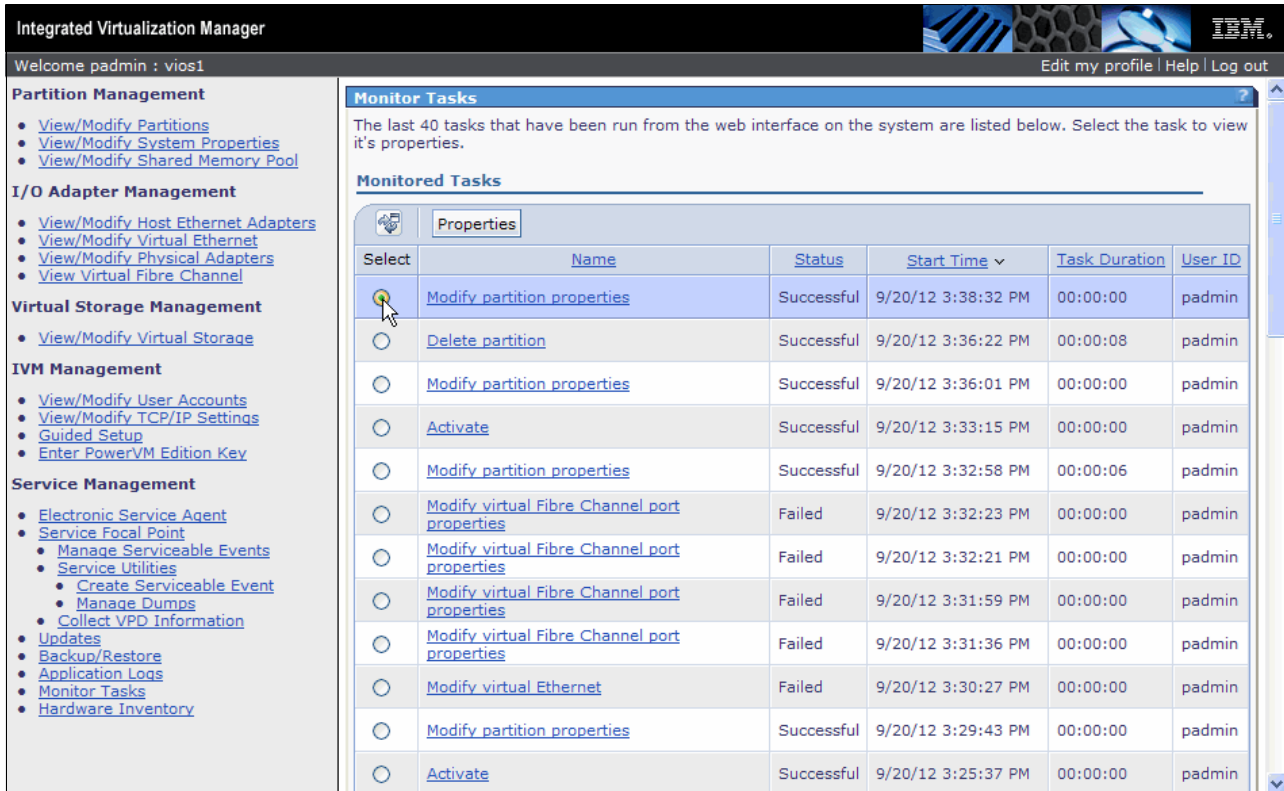
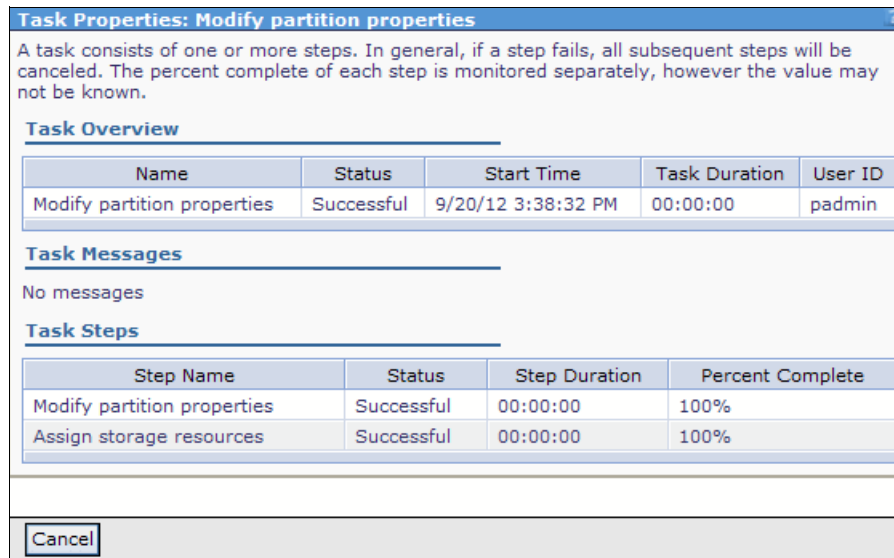

Figure 5-50 Monitor Tasks: the last 40 tasks
Figure 5-51 Task Properties
2. **Select** the task for which you want to view the properties, as shown in Figure 5-50.
3. Click **Properties** (shown in Figure 5-50). The **Task Properties** window opens, as shown in Figure 5-51.